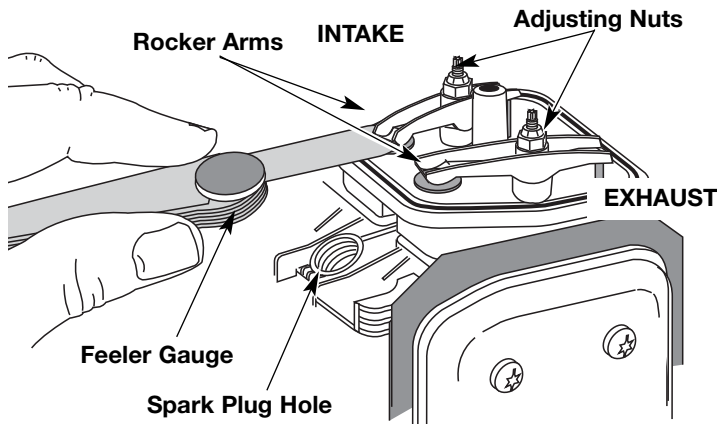

Fig. 33
- The piston is at the top of its travel. Look in the spark plug hole to view the piston (Fig. 33).
- Slide the feeler gauge between the rocker arm and the top of each valve stem. Measure the clearance between the valve stem and rocker arm (Fig. 33). Measure both the intake and exhaust valves. The recommended clearance for both intake and exhaust is .003 – .006 in. (.076 – 0.152 mm). Use a standard automotive .005 in. (0.127 mm) feeler gauge. The feeler gauge should slide between the rocker arm and valve stem with a slight amount of resistance, without binding. See Figures 33 and 34.
- Turn the adjusting nut using a 5/16 inch (8 mm) wrench or nut driver (Fig. 33).